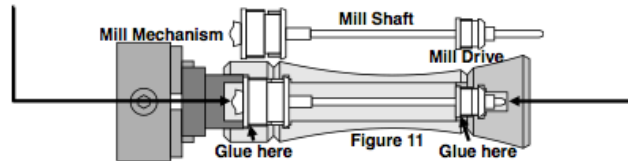

Figure 11
39. See Figure 11. Assemble Mill hardware as shown. Advise gluing mechanisms in place, ONLY around edge of each mechanism. Avoid excess glue to prevent gluing mechanism to itself.